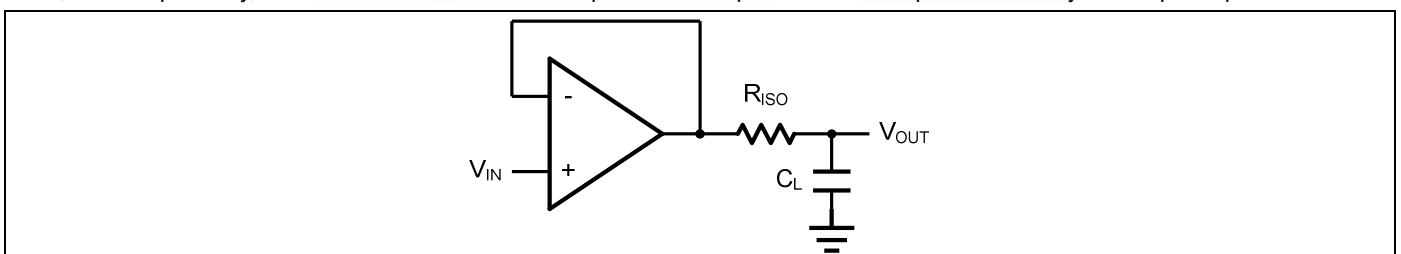
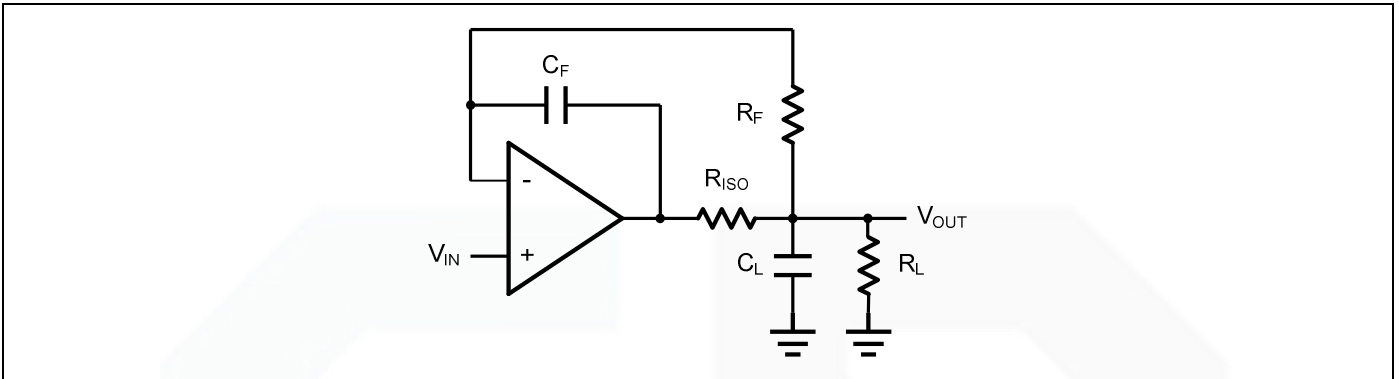

Figure 2. Indirectly Driving a Capacitive Load Using Isolation Resistor
Figure 3. Indirectly Driving a Capacitive Load with DC Accuracy
The GS321A/358A family is optimized for bandwidth and speed, not for driving capacitive loads. Output capacitance will create a pole in the amplifier's feedback path, leading to excessive peaking and potential oscillation. If dealing with load capacitance is a requirement of the application, the two strategies to consider are (1) using a small resistor in series with the amplifier's output and the load capacitance and (2) reducing the bandwidth of the amplifier's feedback loop by increasing the overall noise gain. Figure 2. shows a unity gain follower using the series resistor strategy. The resistor isolates the output from the capacitance and, more importantly, creates a zero in the feedback path that compensates for the pole created by the output capacitance.
The circuit in Figure 3 is an improvement to the one in Figure 2. R_F provides the DC accuracy by feed-forward the V_{IN} to R_L . C_F and R_{ISO} serve to counteract the loss of phase margin by feeding the high frequency component of the output signal back to the amplifier's inverting input, thereby preserving the phase margin in the overall feedback loop. Capacitive drive can be increased by increasing the value of C_F . This in turn will slow down the pulse response.